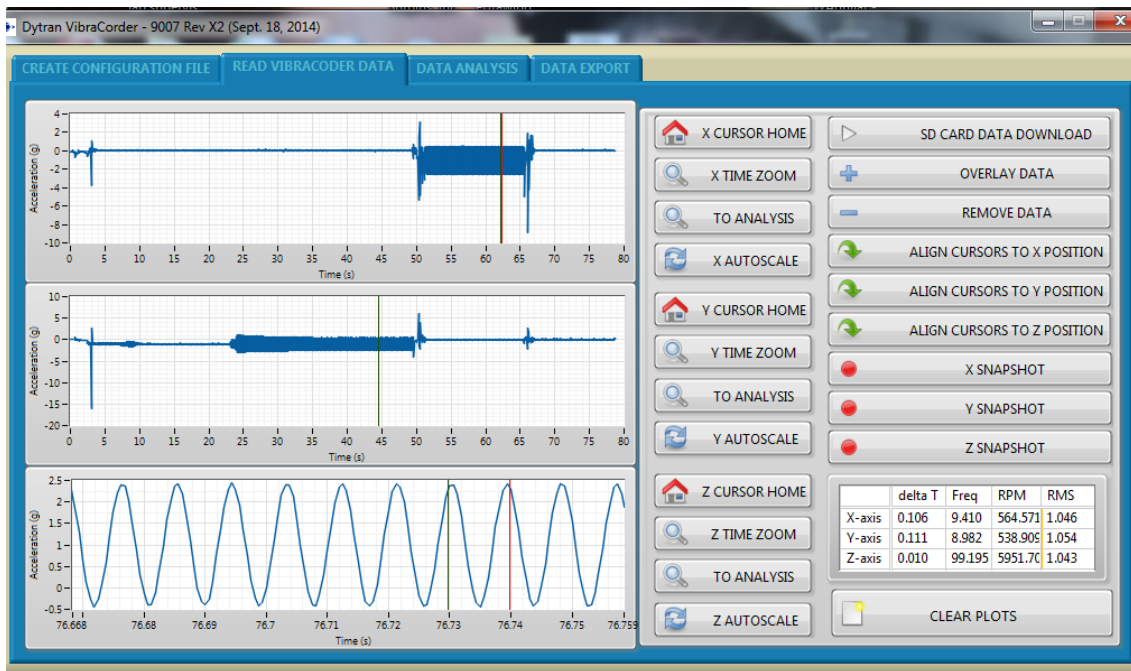

Figure 6: Axis Z data of 100Hz sinusoidal vibration at 1 g RMS.
- 6.6 Data table shows the immediate cursor information for each axis: delta T, Frequency (Calculated based on cursor positions when they are located on one period), RPM (Calculated based on cursor positions when they are located on one period), and RMS value of the signal between cursors. See *Figure 6* for example: